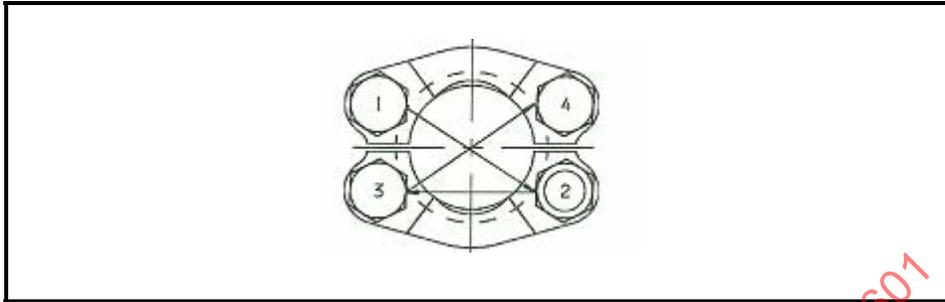

FIGURE 6—ISO 6162 PART 1, ISO 6162 PART 2 AND SAE J518
- 6.1.2.7 Hand tightened and snug up the screws in the sequence shown in **Figure 6** to ensure uniform contact at all four screw locations to prevent flange tipping, which may lead to flange breakage at final torque.
- 6.1.2.8 Torque the screws in diagonal sequence shown in **Figure 6** in two or more increments to the appropriate torque levels listed in Tables 1, 2 or 3.
BEFORE PROCEEDING REFER TO FIGURE 6 FOR ASSEMBLY PROCEDURES